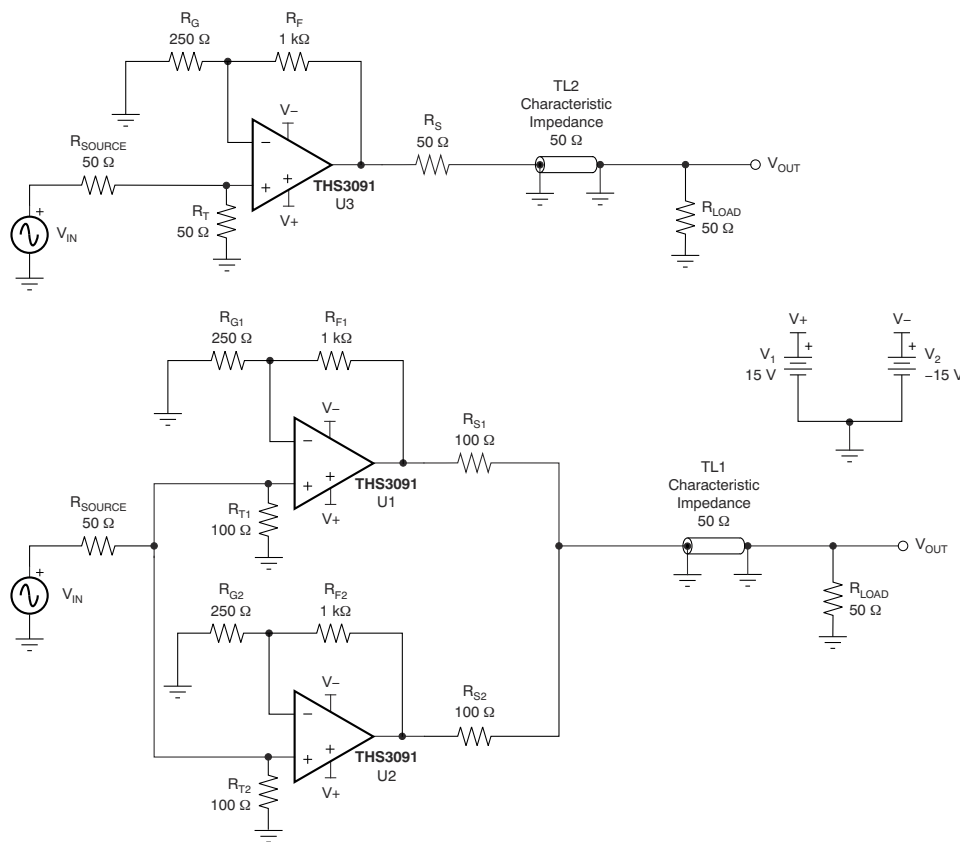
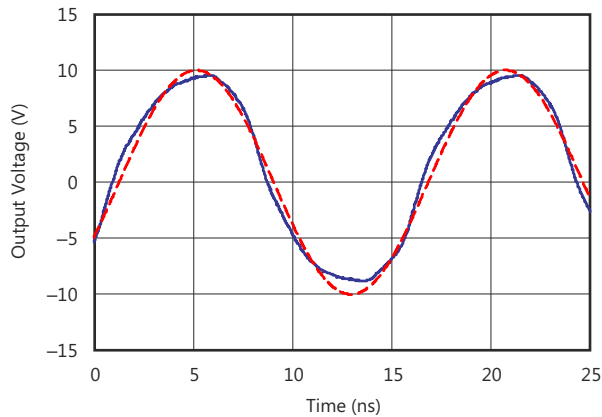
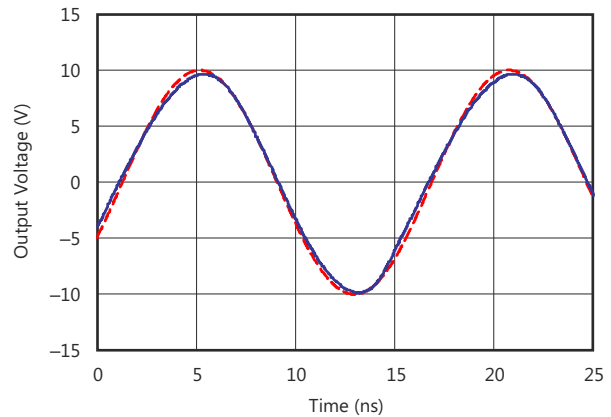

图 9-1. Reference THS3091 and THS3091 Load Sharing Test Configurations
图 9-4. 64-MHz Sine Wave Output (Gain = 5 V/V, Signal Amplitude Referred to Amplifier Output), Single THS3091 Circuit Configuration
图 9-5. 64-MHz Sine Wave Output (Gain = 5 V/V, Signal Amplitude Referred to Amplifier Output), Two THS3091 Amplifiers in Load Sharing Configuration
The fundamental concept of load sharing is to drive a load using two or more of the same operational amplifiers. Each amplifier is driven by the same source. 图 9-1 illustrates the schematic for this design. This concept effectively reduces the current load of each amplifier by $1/N$, where N is the number of amplifiers. For further details on the design and performance of this circuit, see the Reference Design for Implementation of the Load Sharing Concept for Large-Signal Applications.
As shown in 图 9-1 for example, in a two-amplifier load sharing configuration with matching resistance driving a resistive load (RL), each series resistance is 2×RL and each amplifier drives 2×RL. A convenient indicator of whether an op amp will function well in a load sharing configuration is the characteristic performance graph of harmonic distortion versus load resistance. 图 7-9 and 图 7-10 show more information. Such graphs can be found in most of TI's high-speed amplifier data sheets. These graphs can be used to obtain a general sense of whether or not an amplifier will show improved distortion performance in load sharing configurations.
图 9-1 shows two test circuits: one for a single THS3091 amplifier driving a double-terminated (50-Ω cable), and one with two THS3091 amplifiers in a load sharing configuration. In the load sharing configuration, the two 100-Ω series output resistors act in parallel to provide 50-Ω back-matching to the 50-Ω cable.
图 9-4 and 图 9-5 show the 64-MHz sine wave outputs of the two configurations from 图 9-1. While the single THS3091 output is clearly distorted in 图 9-4, the output of the load sharing configuration in 图 9-5 shows only minor deviations from the ideal sine wave.